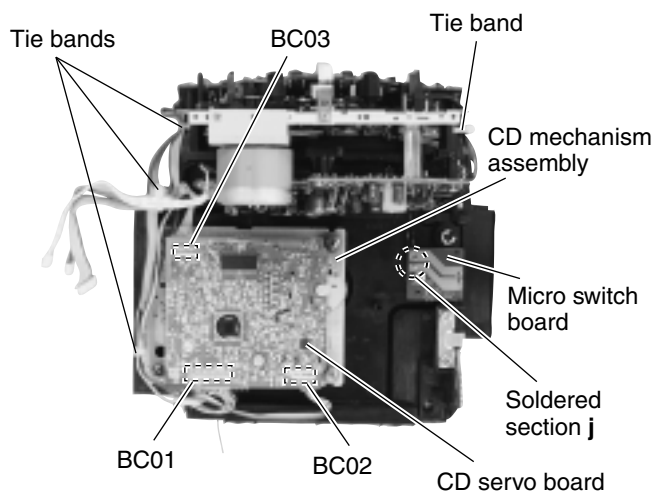

Fig.14
(See Figs.14 and 15.)
1. From the bottom side of the CD mechanism assembly, remove the tie bands bundling the wires from the CD mechanism assembly. (See Fig.14.)
2. Disconnect the wires from the connectors BC01, BC02 and BC03 on the CD servo board. (See Fig.14.)
3. Remove the solders from the soldered section **j** connecting the wires to the micro switch board. (See Fig.14.)